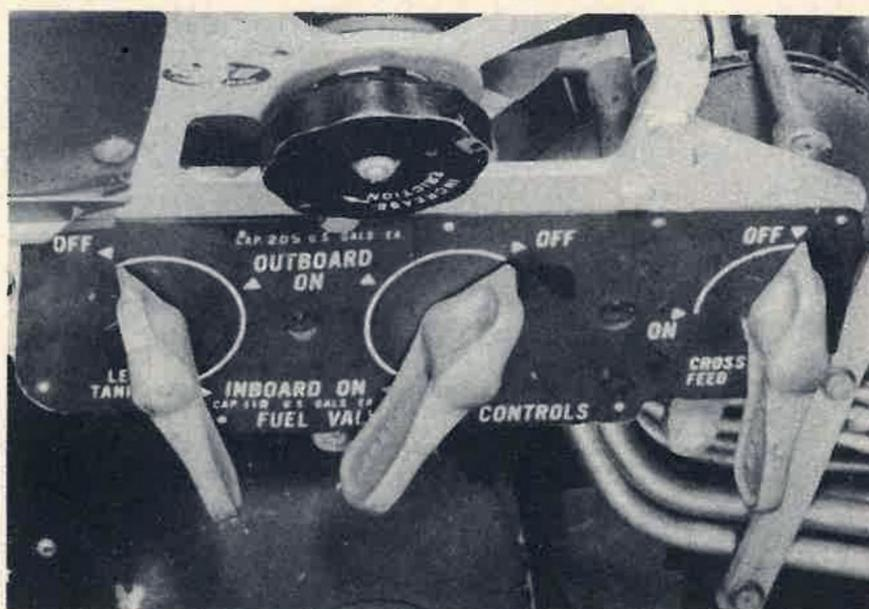

Figure 14 — Fuel Valve Controls
(2) Fuel selector valve and tank cross feed valve controls are mounted just below the throttle quadrant to the left of the pilot's seat. (Fig. 14.)